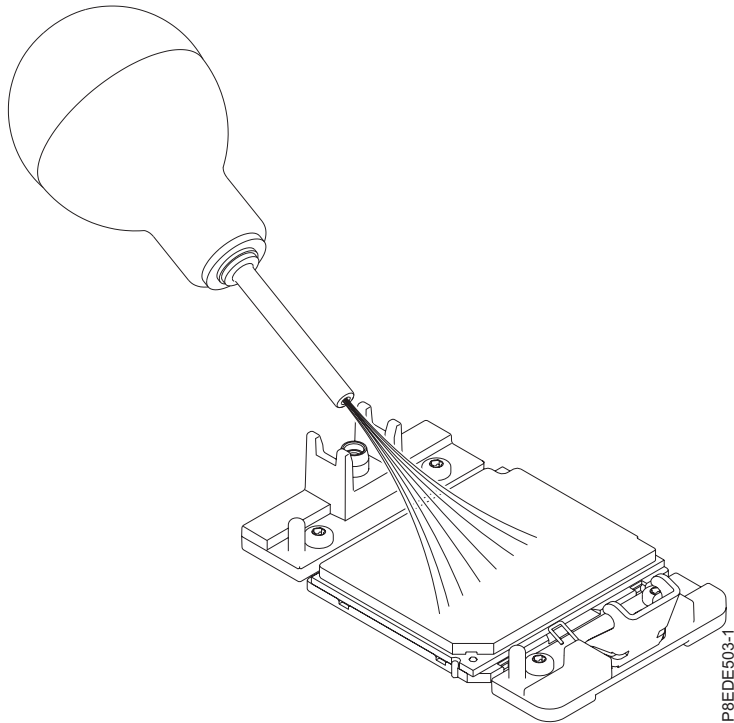

Figure 18. Removing dust and debris from the system processor module area
- a. If dust or debris is present, use the supplied air pump (part number 45D2645) to clean the system processor module area. Blow small bursts of air from the center toward the sides of the system processor module as shown in Figure 18 on page 21.